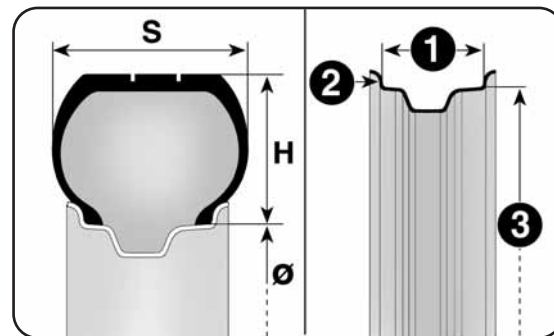

fig. 5
### LECTURE CORRECTE DU PNEU fig. 5
**LECTURE CORRECTE DE LA JANTE fig. 5**